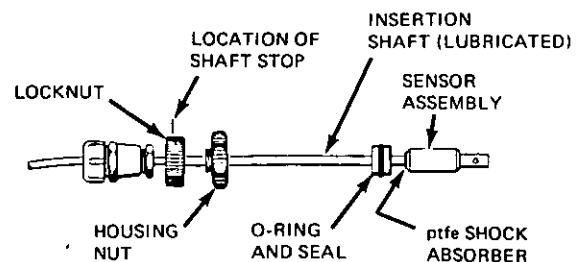

Figure 17.
5. Slide the ptfE shock absorber and the O-ring and seal onto the insertion shaft until the shock absorber is against the sensor assembly (see Figure 17).